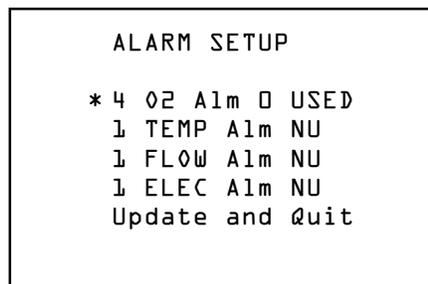

Figure 34: Alarm Setup Menu
The Alarms screen is used to set or determine the status of alarms. When the Alarms entry is selected from Figure 33, the display will present Figure 34.
If an O₂ alarm has been selected from the Alarm Setup Screen Figure 34, the display will show Figure 35.
The **TEMP** alarm is used to indicate an out of range temperature condition for the sensor. From the Alarm Setup Menu, Figure 34, selecting TEMP Alm (ON) will bring a display similar to Figure 36. The alarm can be assigned to any one relay.
From the Alarm Setup Menu, Figure 34, selecting FLOW Alm (ON) will bring a display similar to Figure 36. The alarm can be assigned to any one relay.
The ELEC alarm is used to indicate electrolyte condition. From the Alarm Setup Menu, Figure 34, selecting the ELEC Alm (ON) will bring a display similar to Figure 36. The alarm can be assigned to any one relay.